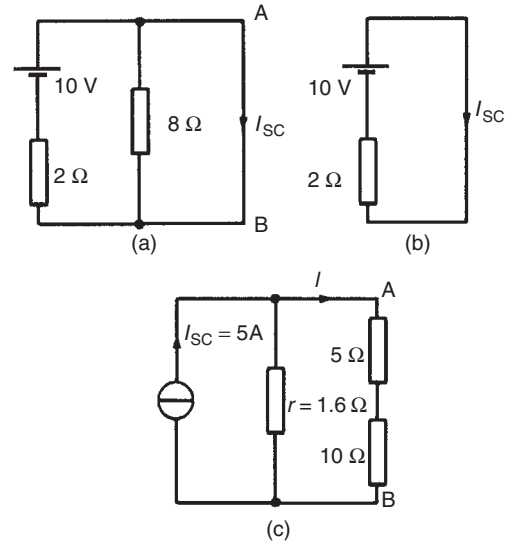

Figure 13.55
- (i) The branch containing the $10\ \Omega$ resistance is short-circuited as shown in Fig. 13.55(a)
- (ii) Fig. 13.55(b) is equivalent to Fig. 13.55(a).
- (iii) If the 10 V source of e.m.f. is removed from Fig. 13.55(a) the resistance 'looking-in' at a break made between A and B is given by:
- (iv) From the Norton equivalent network shown in Fig. 13.55(c) the current in the $10\ \Omega$ resistance, by current division, is given by: